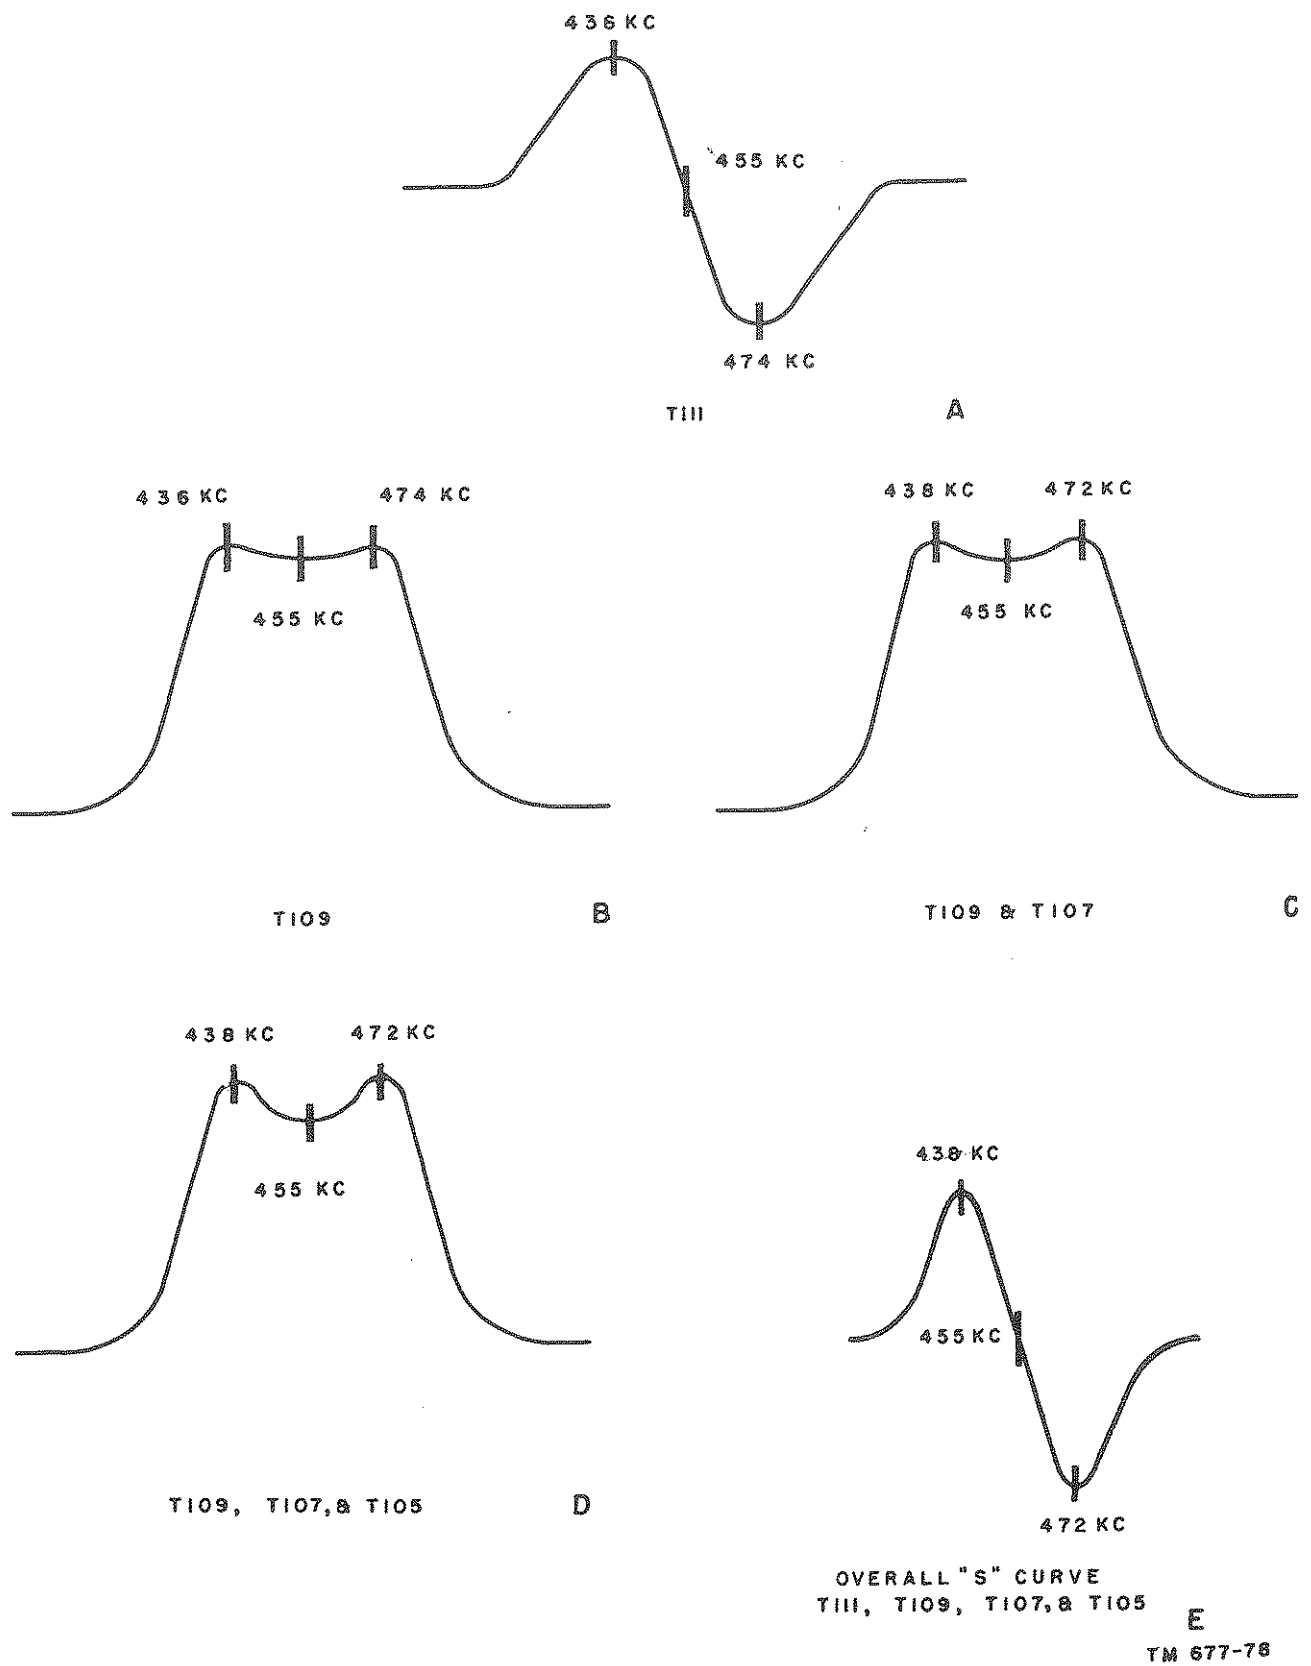
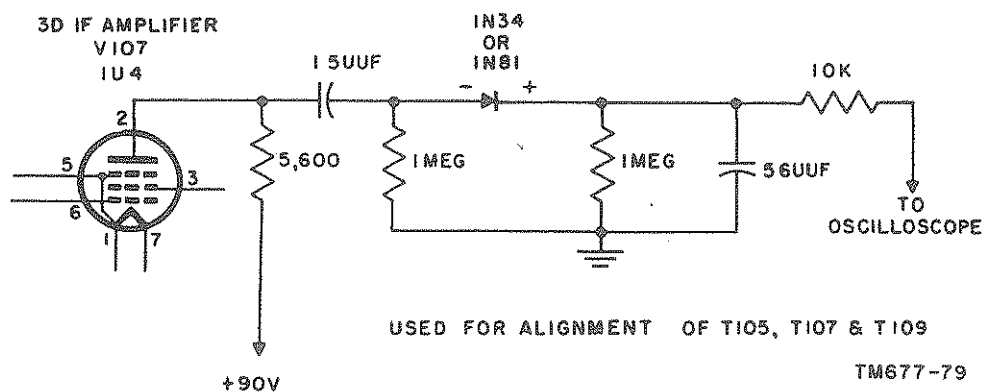

Figure 78. Alinement curves for the 455-kc fm if. transformers.
Figure 79. Crystal detector used for alignment of 455-kc fm if. transformers.
- (4) Adjust the bottom tuning slug of T111 for zero dc output on the VTVM. An adjustment of the tuning slug in either direction will swing the meter needle positive or negative when zero reading is obtained, after the correct setting has been made. This adjustment sets the secondary of the discriminator to the center frequency.
- (5) Connect the VTVM from ground to the junction of R179, R180, R181, C255, and C256.
- (6) Tune the top slug of T111 for maximum reading on the VTVM.
- (7) Place the generator signal ((3) above) on pin 6 of V106 and tune the primary and secondary of T109 to maximum on the VTVM.
- (8) Place the signal on pin 6 of V105 and tune the primary and secondary of T107 to maximum on the VTVM. Gradually reduce the rf input of the generator as the number of if. stages increases.
- (9) Place the signal on pin 6 of mixer V103 and tune the primary and secondary of T105 to maximum on the VTVM.
- (10) After completing the alinement above, leave the signal on the mixer and take the VTVM off and place it back at the discriminator junction ((2) above). Retouch the bottom slug of T111 for zero on the VTVM.
b. *Alinelement Using Oscilloscope.* As an alternate method, a visual alinement can be made by using an oscilloscope. This method of alinement requires an fm sweep signal generator that will supply a 455-kc intermediate frequency, with approximately 50-kc deviation and sweep rate of 50 to 60 cycles, an oscilloscope, and the detector circuit made up of components shown in figure 79.
- (1) Connect the vertical amplifier of an oscilloscope through a shielded or coaxial cable to the junction of R181, R182, C256, and CR102. Calibrate the vertical oscilloscope gain so that 1 volt of signal produces a 2-inch deflection.
- (2) Connect the horizontal amplifier of the oscilloscope to an external audio signal of 50 or 60 cycles for a proper response curve display.
- (3) Insert a 455-kc fm signal from the generator to pin 6 of V107 and vary the output until the oscilloscope shows a 2-inch peak-to-peak display.
- (4) Loosely couple a 455-kc unmodulated signal from an am signal generator to pin 6 of V107. This signal is used as a frequency marker and shows as a pip on the response curve. Adjust the frequency of this generator so that the marker will be first at the top peak, then at the bottom peak. Record the frequency for the marker positions. The response curve and frequency should conform to the curve shown in A figure 78. This completes the discriminator alignment.
- (5) Disconnect the plate lead (pin 2) of V107 from the primary of T111 and connect the detector circuit to it (fig. 79). Connect the vertical input of the oscilloscope to the circuit. The detector circuit, not being frequency discriminating, will only show the response curve of T109, T107, and T105 in the steps in (6) through (10) below.
- (6) Remove both signal sources from pin 6 of V107 and connect them to pin 6 of V106. Adjust the output of the fm generator for a 2-inch display of the response curve.
- (7) Adjust the top slug (primary) of T109 to position the marker to the center of the response curve.
- (8) To equalize the response curve peaks, adjust the bottom slug (secondary) of T109. Readjust the output of the fm sweep generator if necessary. Vary the frequency of the marker, am generator, so that it will be first at one peak then at the other. Record the frequency for the two marker positions. If necessary, retouch the primary and secondary so that the response curve and frequency conform to the one shown in B, figure 78. This completes the alignment for T109.
- (9) Remove both signal sources from pin 6 of V106 and place them on pin 6 of V105; repeat the step in (8) above. Retune so the response curve conforms to that shown in C, figure 78. Because the
- (10) To aline T105, remove both signal sources from pin 6 of V105 and place them on the mixer, pin 6 of V103, and repeat the step in (8) above. The response curve should conform to that shown in D, figure 78.
- (11) Disconnect the crystal detector from the plate of V107 and reconnect the plate lead of V107 to the primary of T111.
- (12) Connect the vertical input of the oscilloscope to the junction of R181, R182, C256, and CR102. The response curve should conform to that shown in E, figure 78. If the response curve is not symmetrical, slightly readjust either T109, T107, or T105.